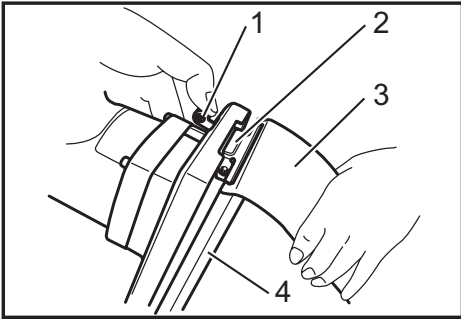

Fig.2
► Fig.2: 1. Lever clip 2. Paper clamp 3. Abrasive paper 4. Base